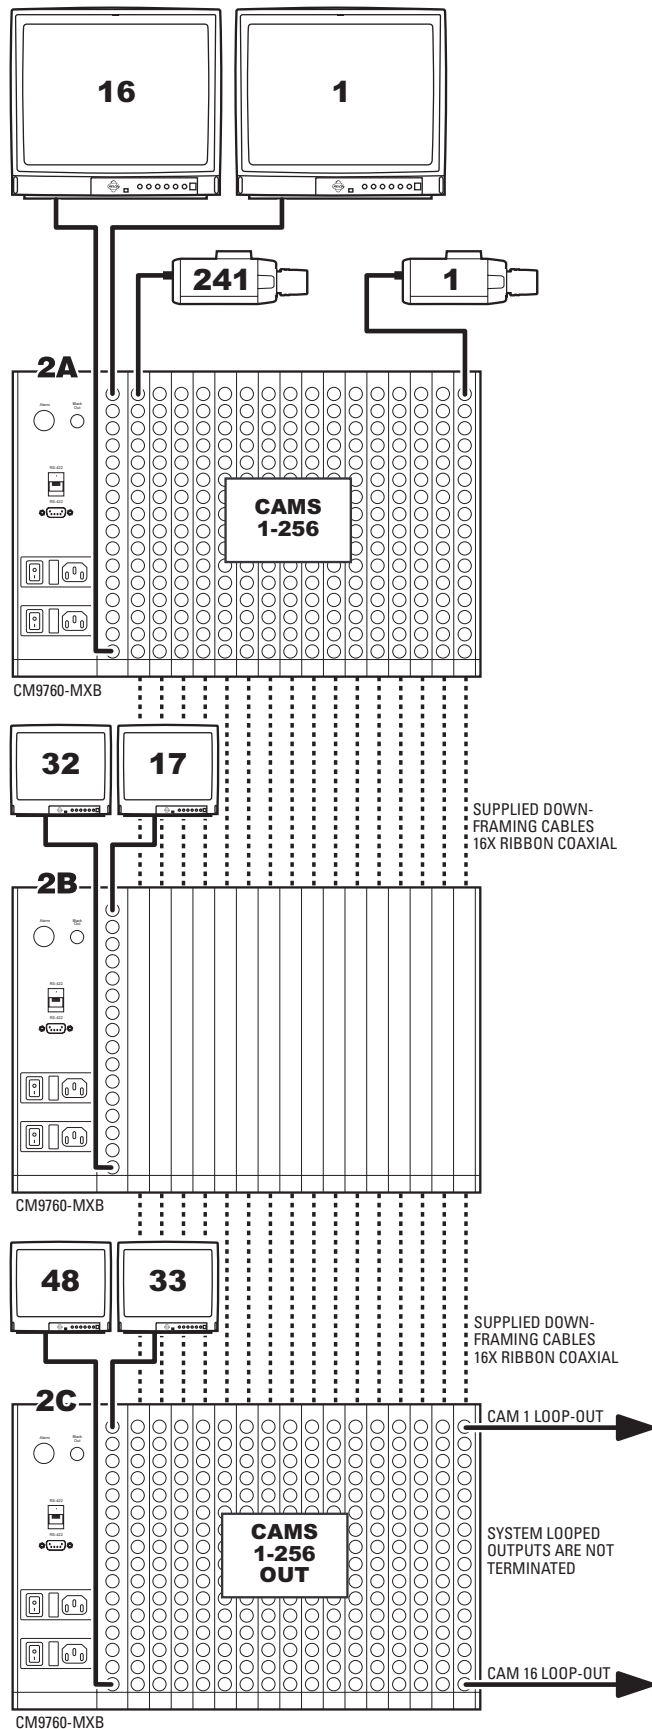

Figure 65. Downframing: 256 x 48 Configuration, Looping
- 256 x 48, looping (refer to Figure 65)